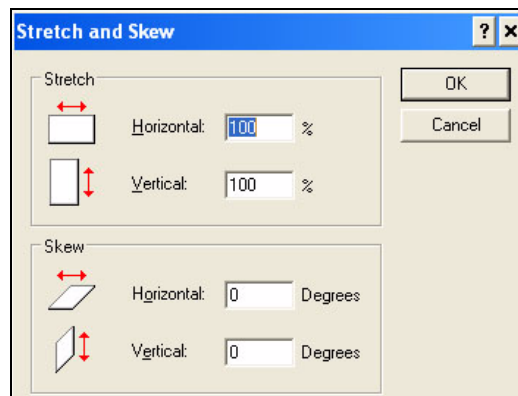

Figure 5-47: Image stretch and skew
**Note:** If the logo size is bigger than required, navigate to *Image > Stretch/Skew*. Enter the appropriate values to stretch/skew the images in vertical and horizontal directions (Figure 5-47). Ensure to enter equal values in horizontal and vertical columns.